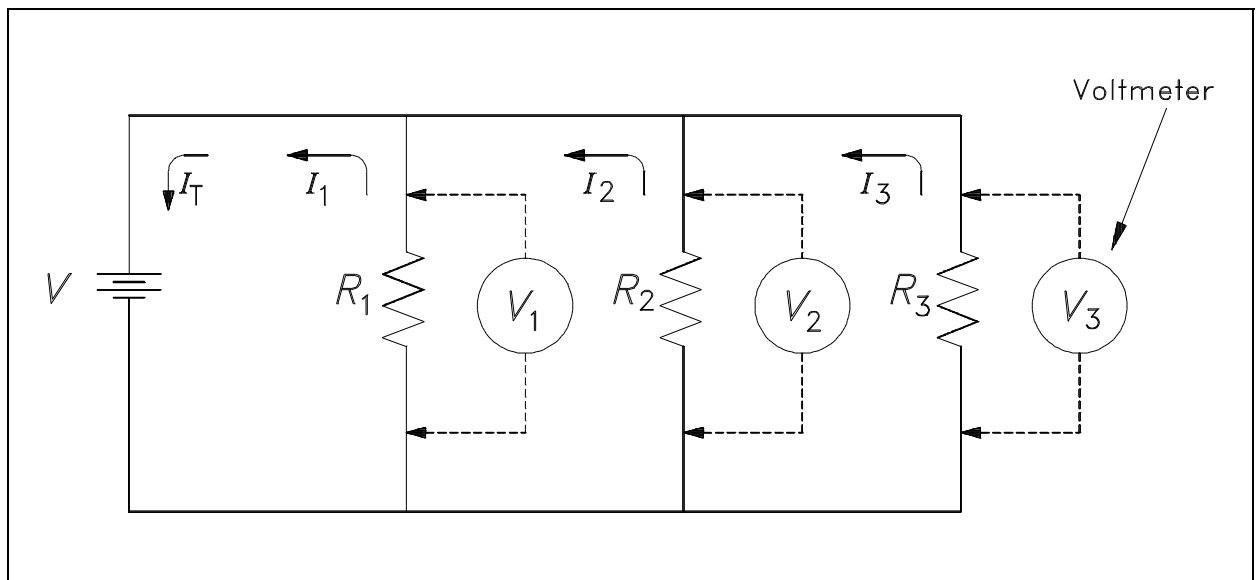

Figure 17 Parallel Circuit
Parallel circuits are those circuits which have two or more components connected across the same voltage source (Figure 17). Resistors R_1 , R_2 , and R_3 are in parallel with each other and the source. Each parallel path is a branch with its own individual current. When the current leaves the source V , part I_1 of I_T will flow through R_1 ; part I_2 will flow through R_2 ; and part I_3 will flow through R_3 . Current through each branch can be different; however, voltage throughout the circuit will be equal.
In a parallel circuit, the total resistance of the resistors in parallel is referred to as *equivalent resistance*. This can be described as the total circuit resistance as seen by the voltage source. In all cases, the equivalent resistance will be less than any of the individual parallel circuit resistors. Using Ohm's Law, equivalent resistance (R_{EQ}) can be found by dividing the source voltage (V) by the total circuit current (I_T), as shown in Figure 17.